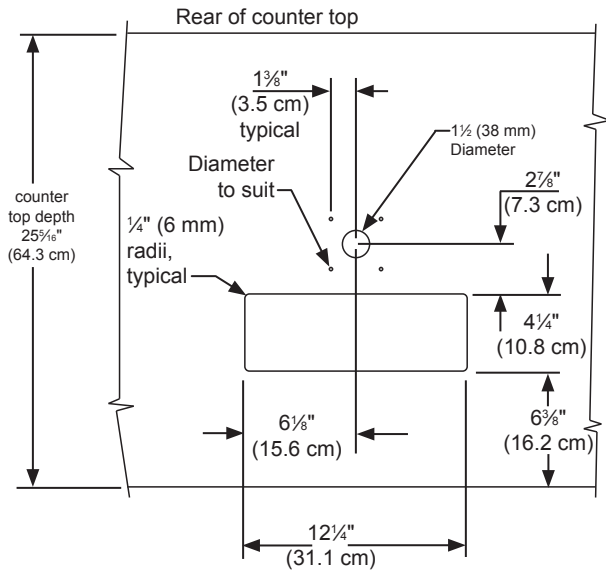

Figure 29
The cutout dimensions shown in Figure 29 are based on a 25 $\frac{5}{16}$ " (64.3 cm) deep counter top. Your counter top may be different than this and require other front to back dimensioning. Refer to the product dimensions on page 8 when determining the required dimensions.
- If you are installing your keg refrigerator under a counter you will need to drill 5 holes in the counter top to mount the tower. The first hole is a 1 $\frac{1}{2}$ " diameter hole located at the center of the tower for the beer line, locate approximately 13 $\frac{1}{2}$ " (34.3 cm) from the front edge of the counter top (based on a counter top depth of 25 $\frac{5}{16}$ "). Next drill the 4 tower mounting holes per the dimensions in Figure 29. The hole diameter is dependent on the counter top material and if screw anchors are required. The screws supplied are in the literature pack and are a #10 x 1" type AB stainless steel screw. Mark and cut the rectangular cutout for the drain sump. After the holes are drilled and the keg refrigerator is in place under the counter top feed the beer line through the tower gasket, the 1 $\frac{1}{2}$ " hole in the counter top and the hole in the top of the keg refrigerator. Mount the tower to the counter top with the 4 screws provided. Place the counter top drain sump, from the literature pack, in the rectangular hole with the radius cutout to the rear around the tower and place the grate in the sump.